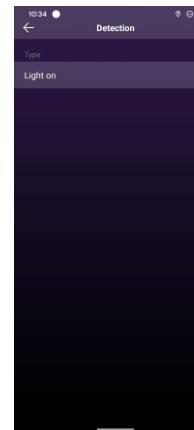
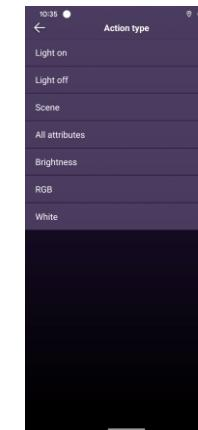
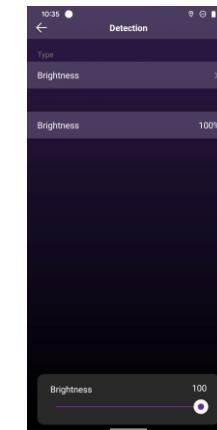

Figure 39
Figure 40
Figure 41
Step 4: Once linked successfully, tap the action under "Detection" to set a triggered action when motion is detected (As shown in **Figure 38 & Figure 39**). Available actions which can be triggered depends on the light device type, the example device is an RGBW device, available actions are: Light on, Light off, Scene, All attributes, Brightness, RGB, White (As shown in **Figure 40**). Here we choose Brightness, and the set the triggered brightness as 100% (As shown in **Figure 41**).